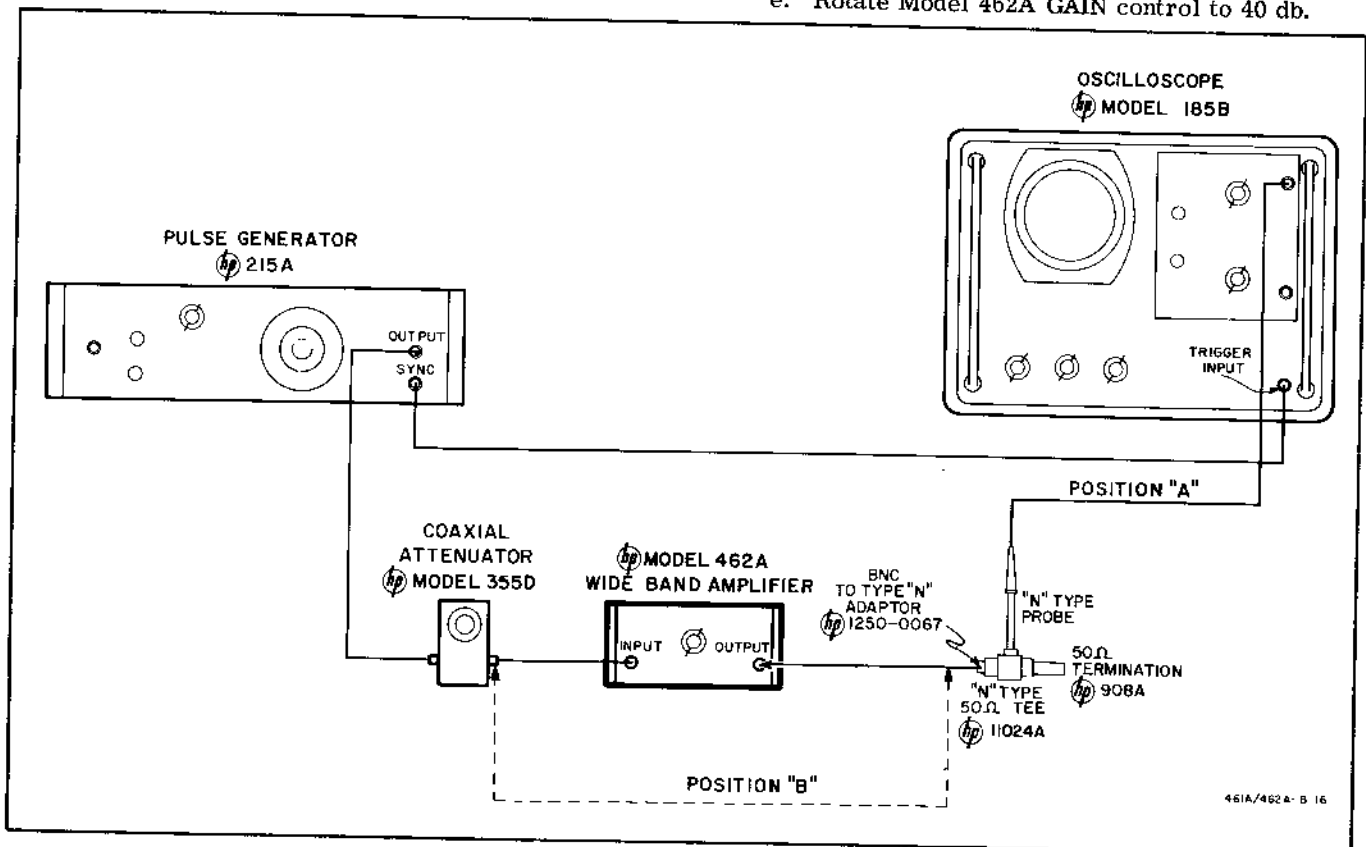
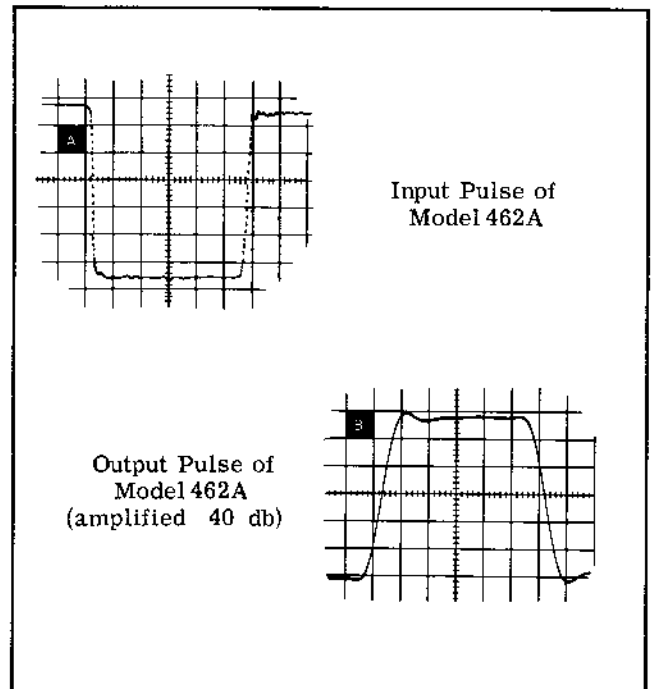

Figure 5-5. Pulse Response Check Setup
Figure 5-10. Input and Output Pulses of Model 462A as photographed on -hp- 185B Sampling Oscilloscope; Sweep Speed is 4 ns/cm
- a. Connect the Model 462A as shown in Figure 5-5.
- c. Set 462A GAIN (DB) control to 40 db.
- f. Connect the oscilloscope to position A. The displayed pulse should have the same shape as the pulse observed in step c. The rise and fall times should be less than 4 nsec. Figure 5-10 shows the relative waveshapes.
- b. Connect Oscilloscope (with 50 ohm load) to OUTPUT of System Attenuator (position B in Figure 5-5).
f. Adjust coils L2 thru L6 for optimum pulse response; rise and fall time <4 nsec; overshoot less than 5% (refer to Figures 5-10 and 5-11).